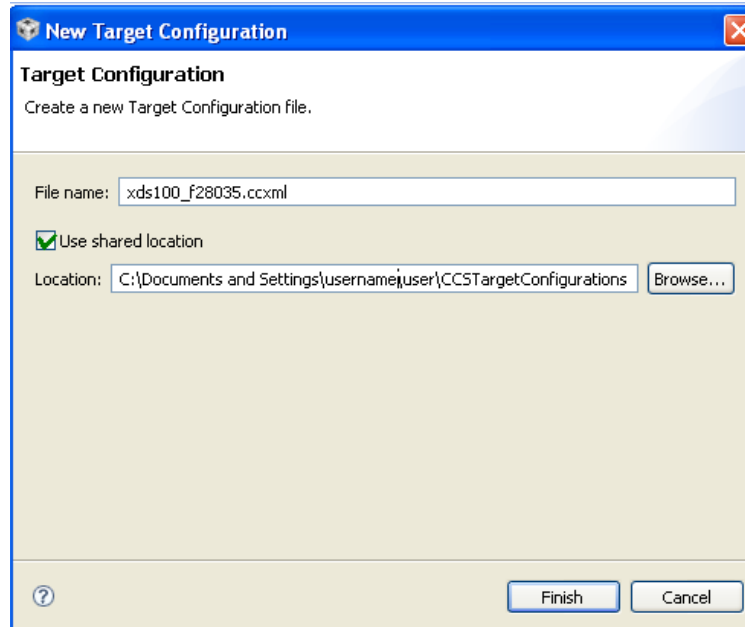

Figure 2: Creating a target configuration
6. This should open up a new tab as seen in Figure 2. Select and enter the options as shown: